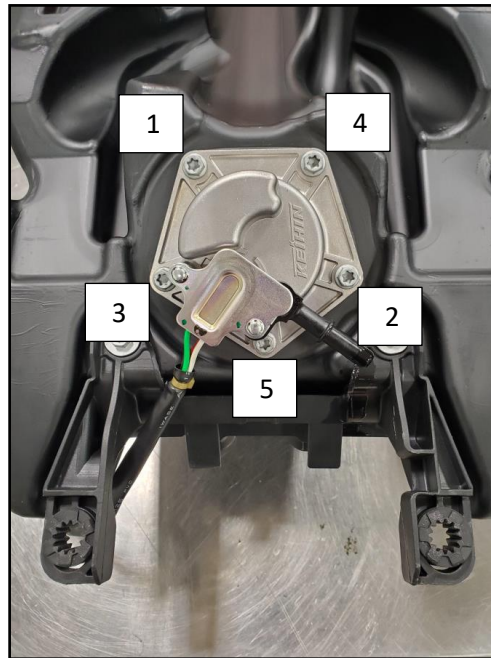

Fig. 13
16. Install the fuel pump and use a crisscross pattern when installing bolts and torquing them. Use the crisscross pattern shown in (Figure 13). Tighten the bolts in two steps. First tighten the bolts to 3 Nm in the crisscross pattern. Then tighten them again a second time in the crisscross pattern and torque the bolts to 6 Nm to tighten them to their final torque specification.